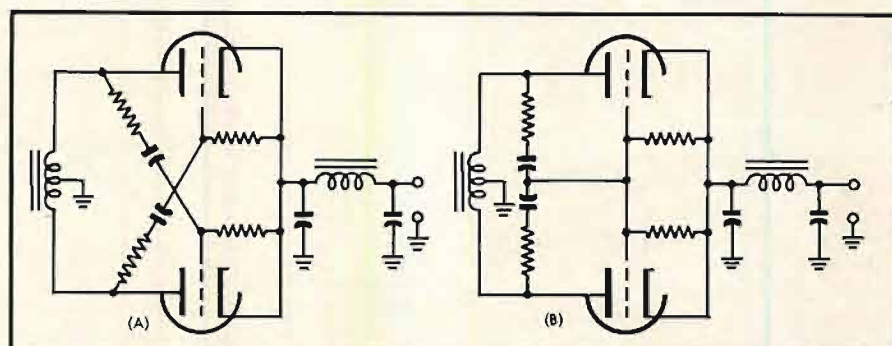

Fig. 2. Equivalent circuits of the power supply at (A) zero output setting, and (B) maximum output setting.
To understand the operation of this circuit, consider the simplified diagram at (A) in Fig. 2. Alternating voltages 180 deg. out of phase are applied to the grid and plate of each triode, so that, whenever the plate of one section is positive, its grid is driven negative. If the grid drive is sufficient, the tube remains cut off. On the other hand, when the grid is allowed to swing in the positive direction, the plate is negative, and there is again no plate conduction. Grid conduction is held to an insignificant value, as the small pulse of grid current on each cycle charges the coupling capaci-
Now suppose that a short circuit is connected between the two grids, as shown at (B) in Fig. 2. If the resistances in this circuit are properly proportioned, there will be no alternating voltage at the grids, and the triodes will operate continuously at zero bias, producing a high direct voltage output. If, on the other hand, a finite resistance is connected between the two grids, the output voltage will be somewhere between the two extremes. Use of a rheostat, as in Fig. 1, permits continuous variation in output.